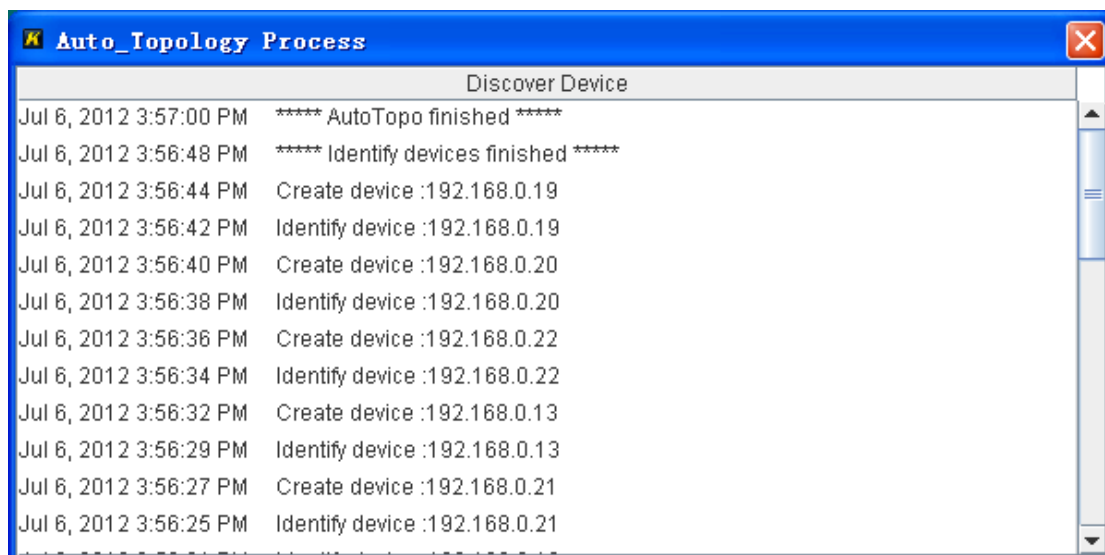

Figure 33 Auto-Topology Process
2. Select NetSegment and enter the start and end IP addresses. Click <OK>. The Auto_Topology Process dialog box is displayed, as shown in Figure 33.